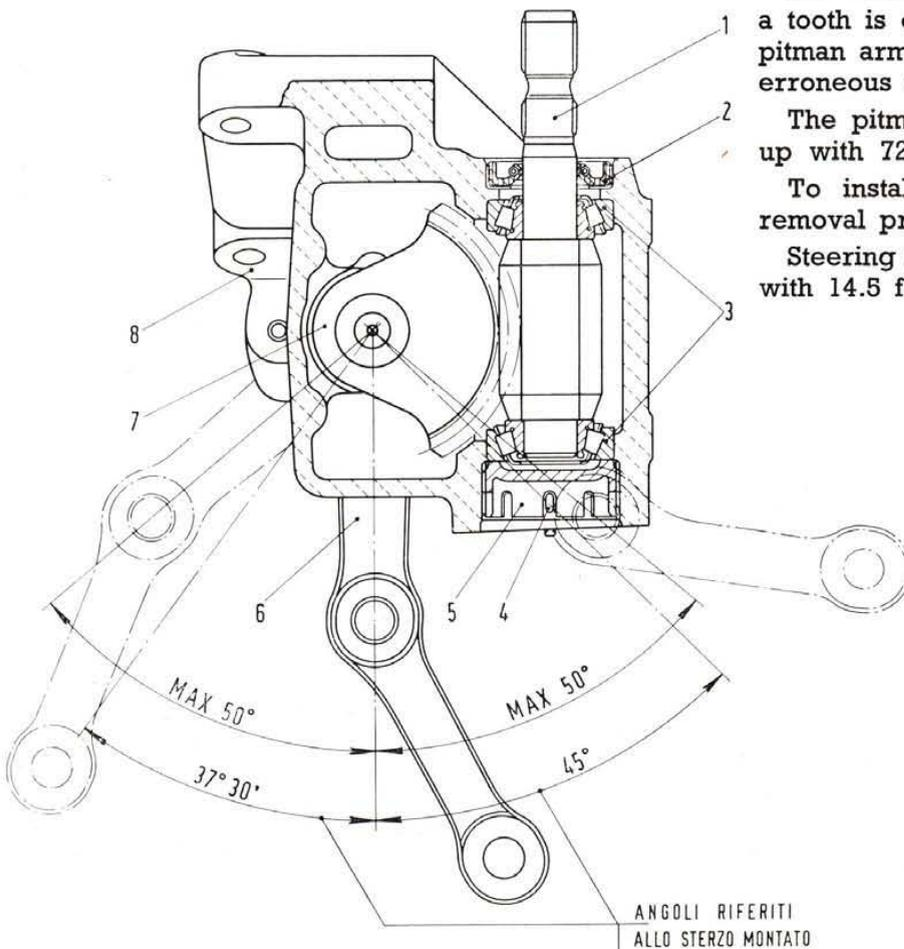

Fig. 280.
Back out the bearing lock and adjusting nut (5, fig. 280).
Slide off the worm (1, fig. 280) complete with roller bearing cones (3).
Tap out roller bearing cups with driver A. 74046 and the oil seal (2, fig. 280) with driver A.74017.
If too much play is felt at worm bearings, take up screwing the lower adjuster nut (5, fig. 280) in; after adjustment, lock the nut in position with a cotter pin: to this purpose, see that the hole on steering housing is in line with one of the spaces between nut castellations.